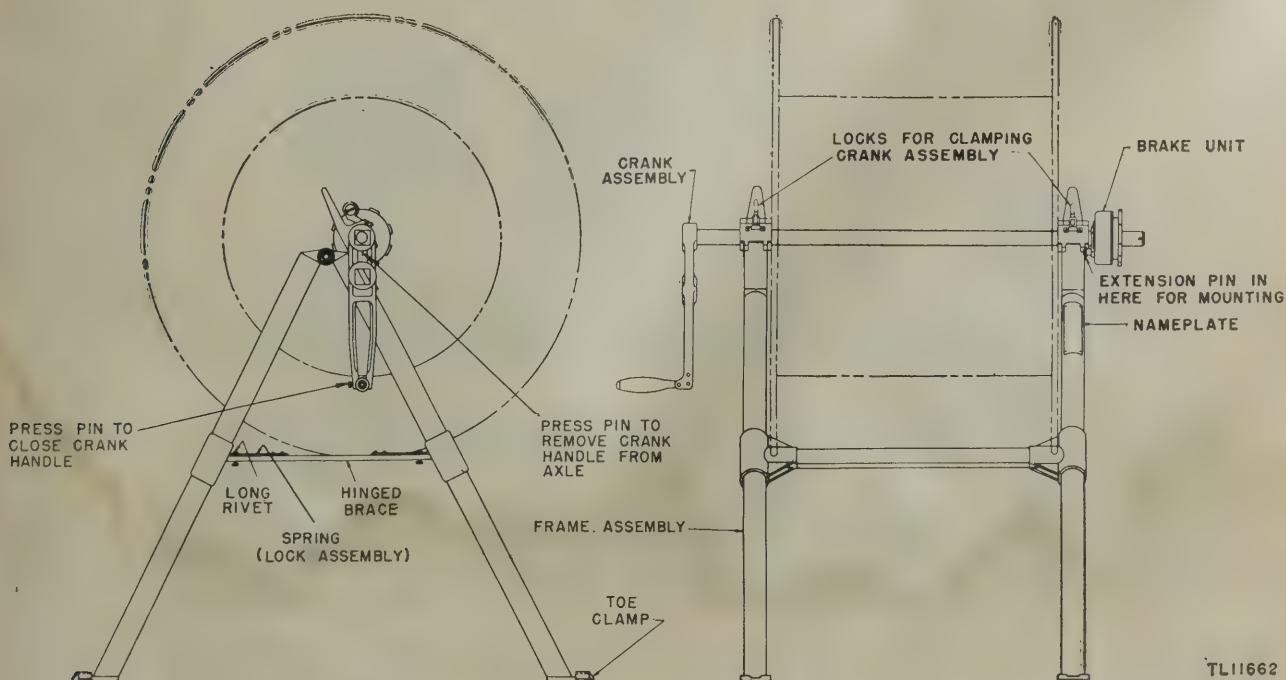

Figure 67. Reel DR-10-A in Reel Unit RL-49-A, line drawing.
a. GENERAL. Use Reel Unit RL-49-A (fig. 67) to unreel cords from Reels DR-10-A. To avoid tangling the cords, place each one in position as it is unreeled. Refer to figures 55 and 59, and to the cording diagram on the rear door of Rack FM-61-A. The cords must be laid out accurately to insure proper operation of the direction finder.
- (1) Mount Reel DR-10-A, Unit RF-724-1, on Reel Unit RL-49-A.
- (2) Unreel and position Cords CD-825, CD-824, CD-822, CD-821, and CD-823, in that order.
- (3) Remove the empty reel and mount